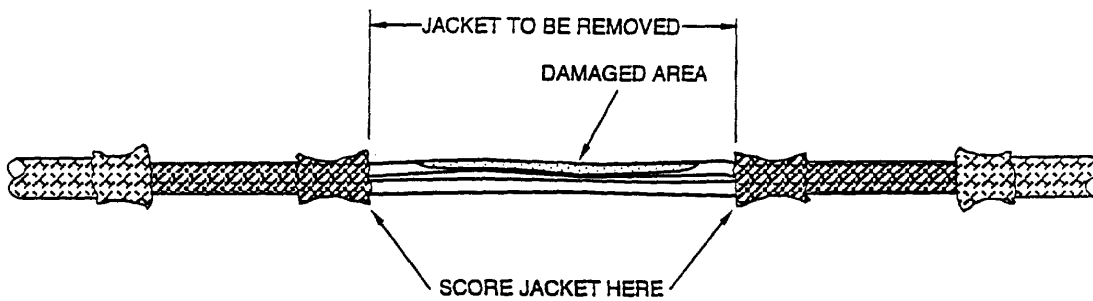

Figure 25. Shield Jacket Removal
- e. Using a sharp knife, carefully score cable shield jacket around cable diameter and along area to be removed (Figure 25).